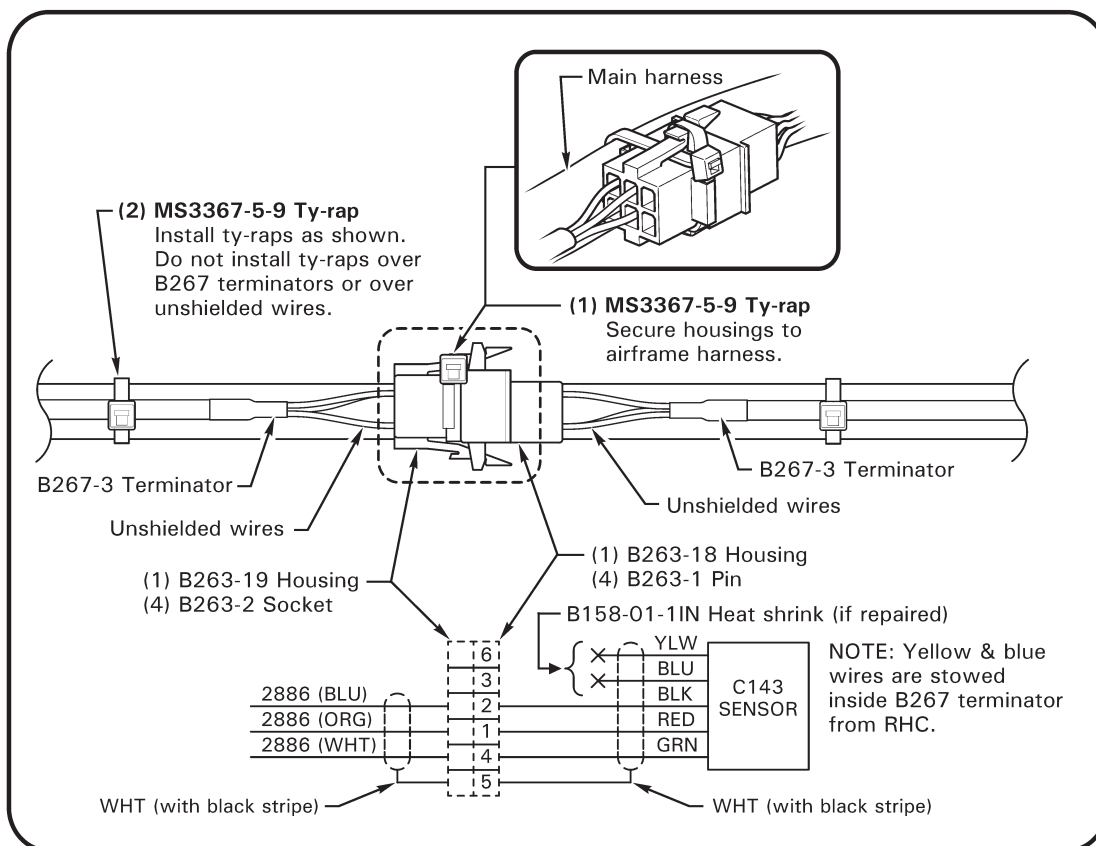

FIGURE 6 Schematic & sensor 6-pin connector
14. Refer to Figure 6. Insert 4 wires & pins into B263-18 housing. Verify security.
33. Refer to Figure 6. Insert 4 wires & sockets into B263-19 housing. Verify security.
36. Connect 6-pin & 6-socket housings and secure to airframe harness with MS3367-5-9 ty-rap per Figure 6. Ensure harness has sufficient slack and does not preload wires.
37. Install additional MS3367-4-9 & MS3367-5-9 ty-raps as required to secure remainder of sensor and airframe wiring; do not install ty-raps over B267 terminators or over unshielded portion of multi-conductor wires (refer to Figure 6).